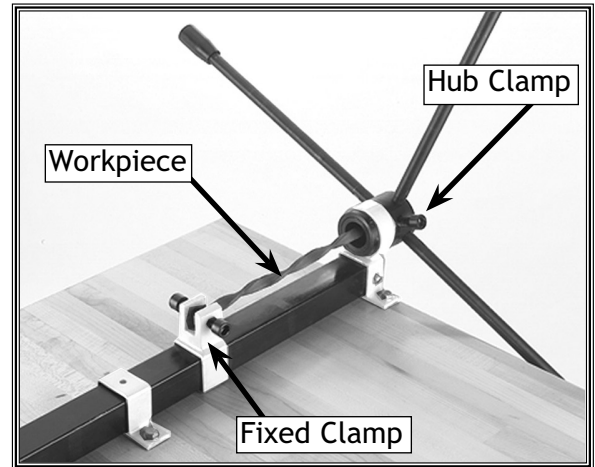

Figure 18. Workpiece inserted through the hub.
1. Insert the workpiece through the hub clamp until the desired portion of the workpiece is shown, and tighten the cap screws down on the hub clamp to hold the workpiece (**Figure 18**).
3. Lock the workpiece down tightly with the cap screws located in the fixed clamp (**Figure 18**).